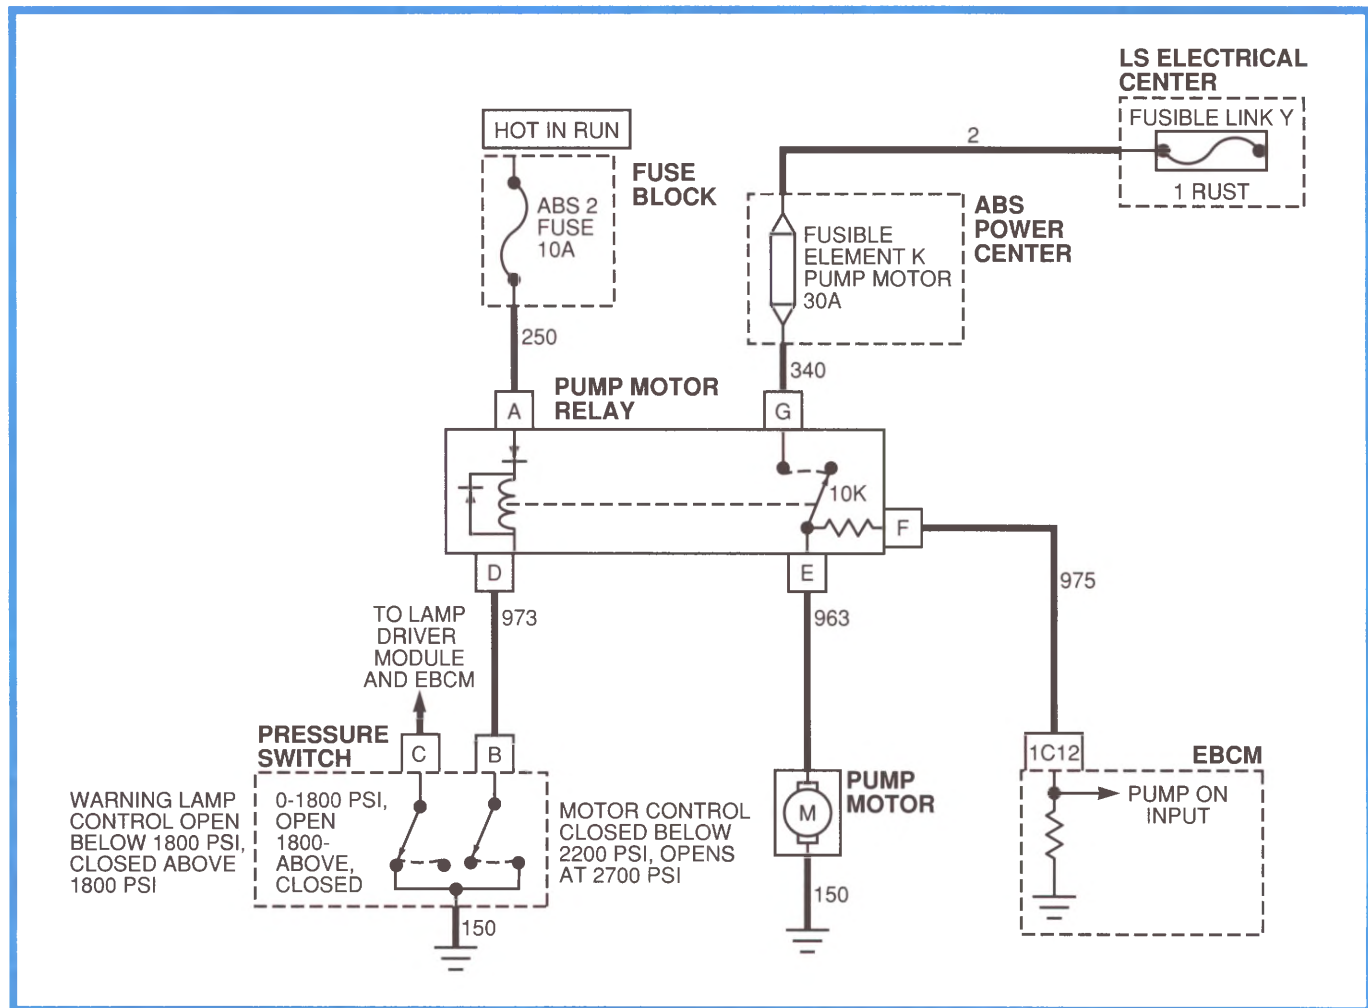

Figure 3-20, Pump Motor Electrical Circuit (Delco Moraine III Shown)
3. When accumulator pressure drops below a specified pressure, the pressure switch grounds, causing the pump to run (Figure 3-20).